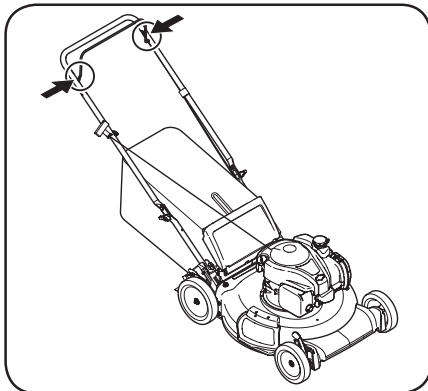

Figure 4-1
1. Lubricate pivot points on the blade control at least once a season with light oil. The blade control must operate freely in both directions. See Figure 4-1.